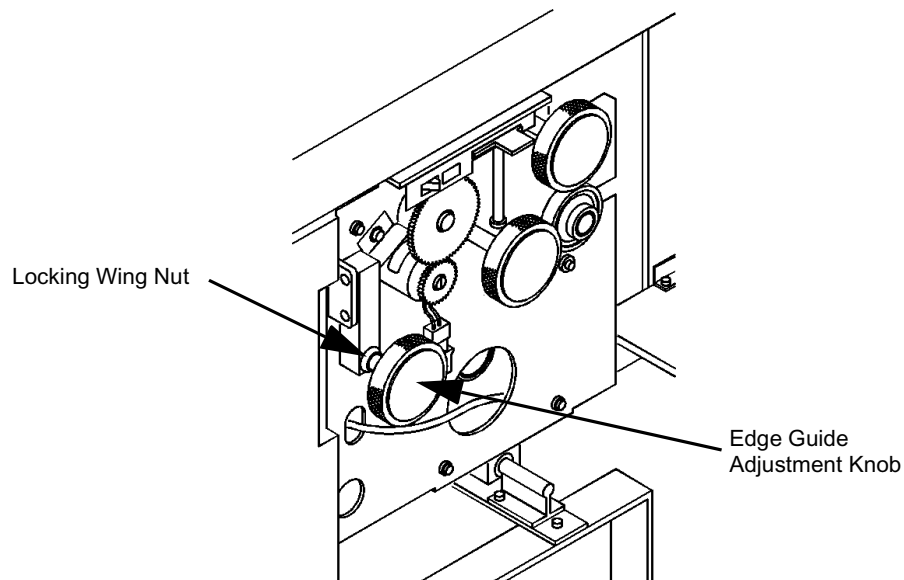

Figure 2-6: Edge Guide Adjustment
- 11 Loosen the Locking Wing Nut, as shown in Figure 2-6.
- 12 Use the Edge Guide Adjustment Knob to make small ($1/8$ to $1/4$ -turn) adjustments, as shown in Figure 2-6. Test after each adjustment until the punched hole sets are centered.